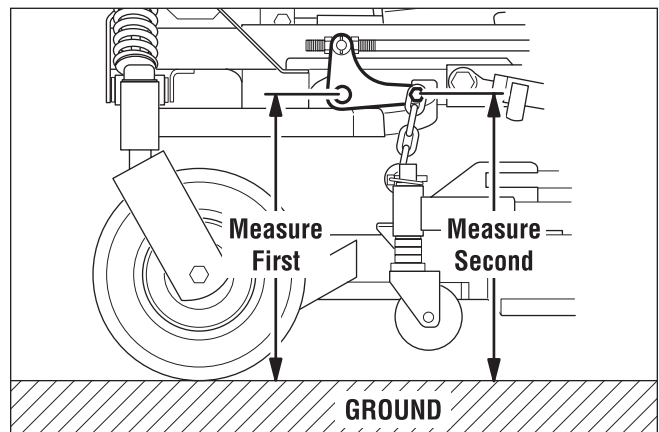

Figure 40. Measure Front Lift Pivot
6. Refer to Figure 40. Measure the distance from the front lift pivot to the ground and from the front chain anchor bolt to the ground. If the measurements are equal, no further adjustment is required. If the measurements are NOT equal (greater than 1/8" (3,17mm) difference), adjustment is required, continue with Step 7.